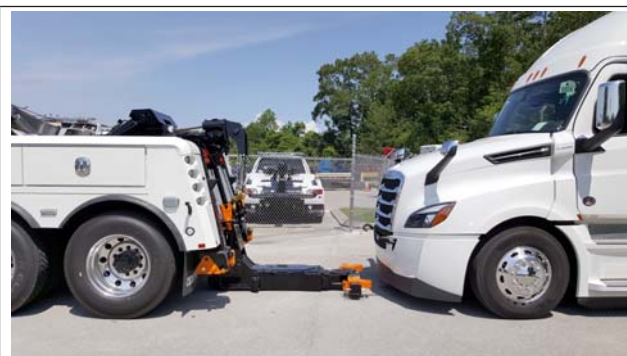

Fig. 21.7, Positioning the Stinger Assembly
4. Lower the stinger assembly so that it is level and approximately 1 inch (0.3 cm) off the ground. Back the tow truck so that the crossbar with lift adaptors is within 6 inches (15 cm) of the Aero bumper. See Fig. 21.7.